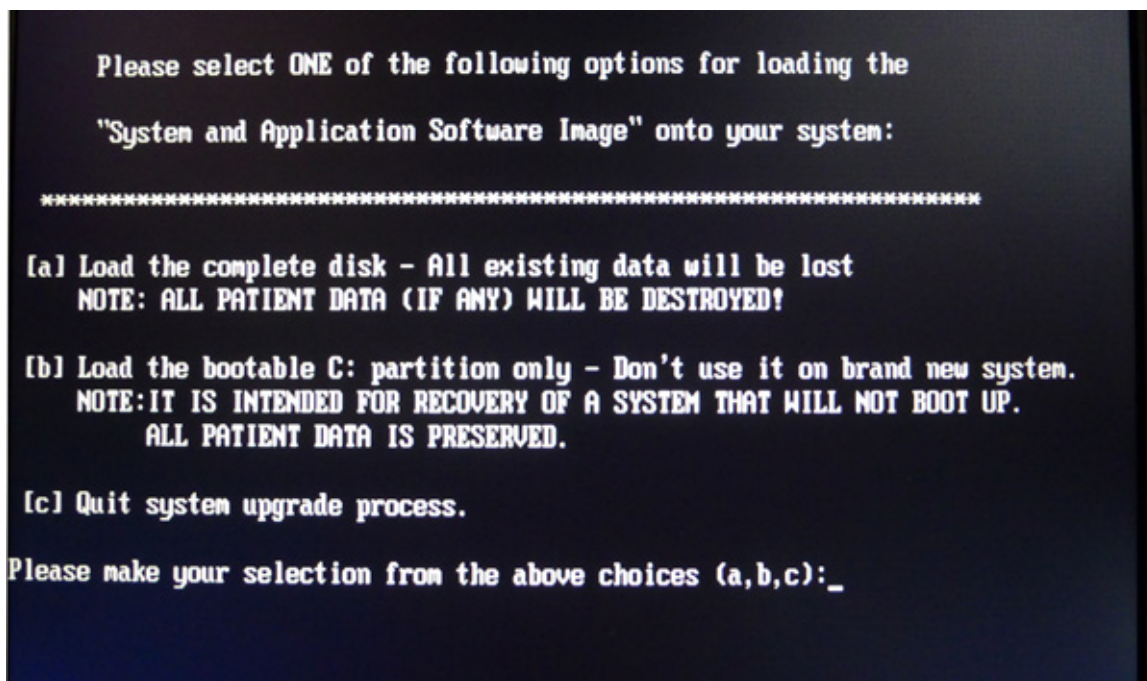

Figure 3-32 Loading selection
- 8.) The system provides three options [a], [b] and [c] as shown in Figure 3-32 on page 3-35 .